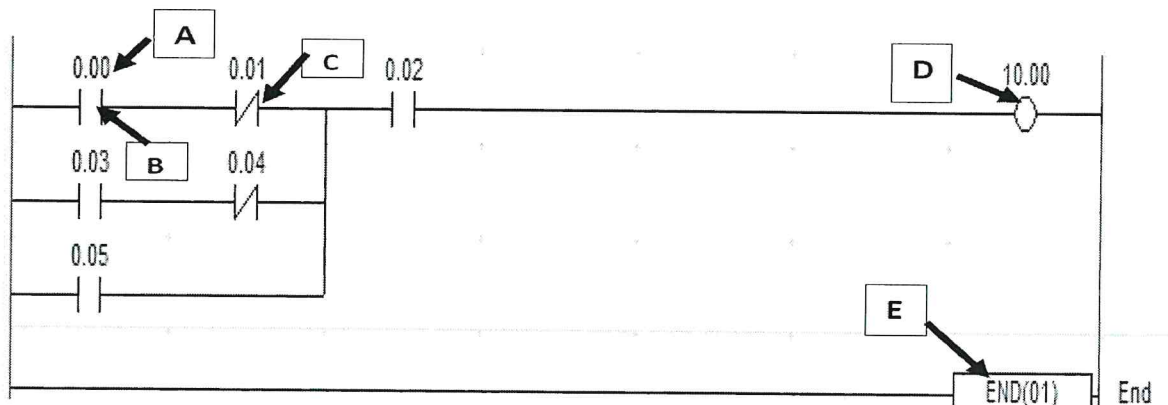

Figure A2 (b) /Rajah A2 (b)
- b) By referring to the ladder diagram as shown in Figure A2(b), identify the elements A,B,C,D and E.